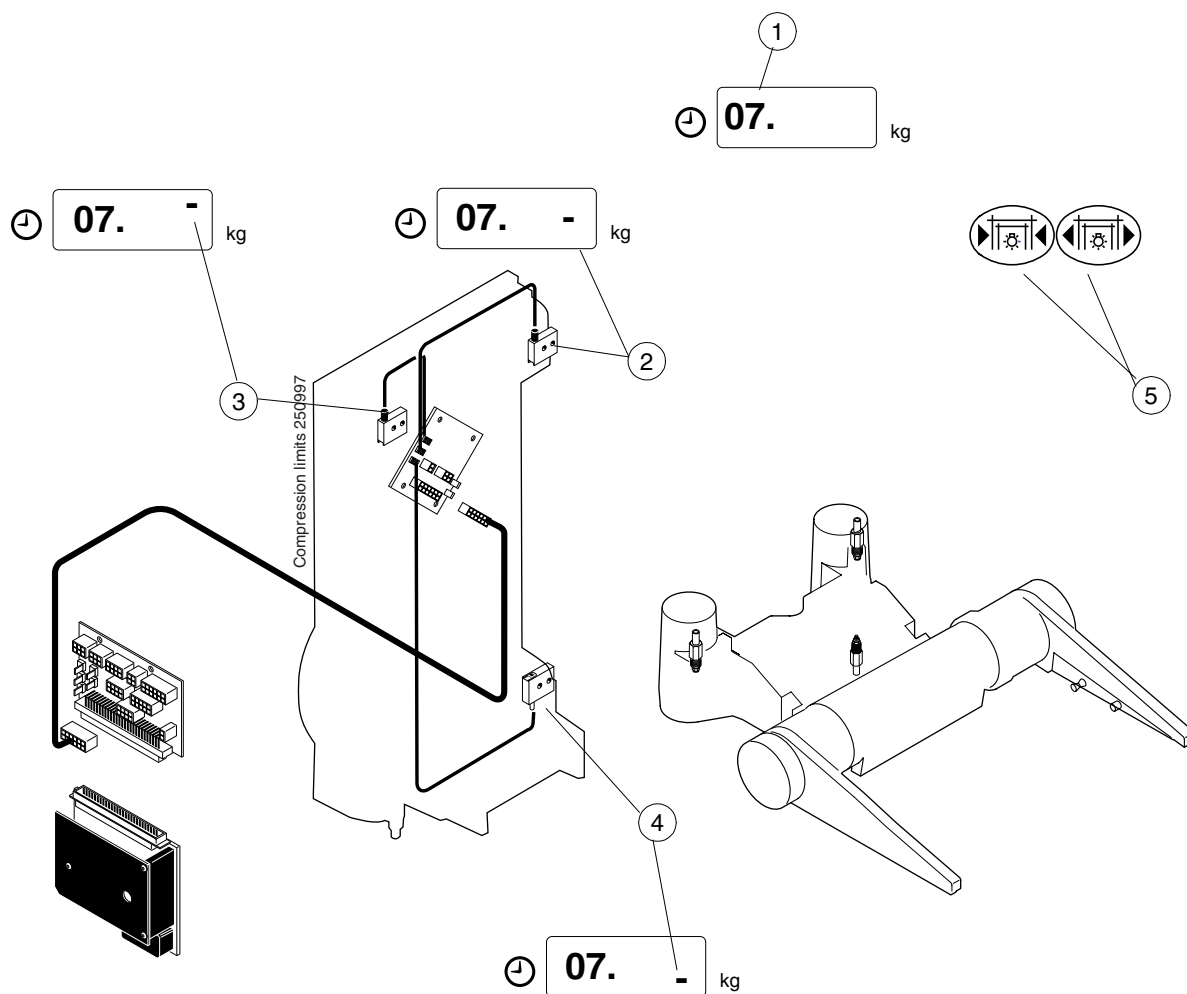

Figure F.23
- a) Enter the service mode and select the display of internal signals mode 07 (Fig. F.23, 1).
- b) Drive the upper compression paddle mechanism with the field/light keys (Fig. F.23, 5) from top to bottom (from limit sensor to limit sensor):
- Upper limit: the upper compression paddle should stop and the right middle signal (Fig. F.23, 2) on the display should light. Paddle or any part of it may not hit to any other parts.
- Release (highest) limit: drive the upper compression paddle to the release limit. The right upper signal (Fig. F.23, 3) should light and the paddle should tilt.
- Lower limit: place the Bucky grid to the lower paddle holders and drive the upper compression paddle to its lower limit. The right lower signal (Fig. F.23, 4) on the display should light. Check that there is 1-2 mm space between the paddle and the Bucky.